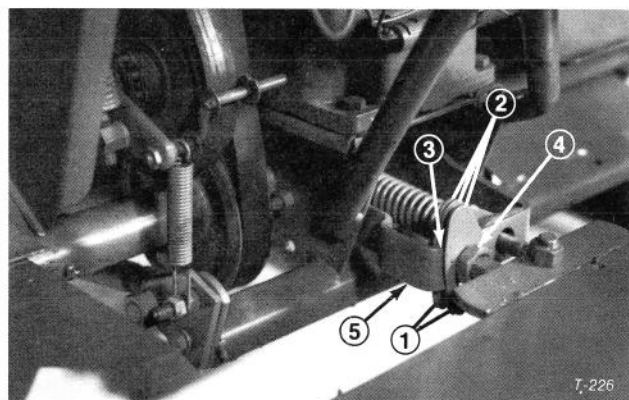

Figure 34
1. Remove screws and locknuts securing rear center and rear side shims (Fig. 34, 35).
2. Move one shim from spring side of yoke to opposite side (Fig. 34).
3. Insert shim between locknut and yoke (Fig. 34). Locknut may be slightly loosened during this
procedure and then tightened. However, be sure jam nut does not rotate or cutting unit attitude will be affected and height-of-cut slightly changed (Fig. 34).
5. Check chain tension. If chain still comes within 1/2 in. (13 mm) of touching, add another shim at each of the three points and recheck tension. Continue until chain is properly tensioned or all shims have been moved. If all shims have been moved, but chain is still too slack, chain must be shortened; refer to Shortening Chain, page 21. If tension is correct, install screws and locknuts and continue operation (Fig. 34, 35).
1. Move shims back to original position at all three points (Fig. 34, 35).
2. Remove chain from mower and remove (1) one chain link.
3. Install (1) one offset link. Offset link may be obtained from your Toro Distributor.
4. Install chain and check tension. If tension is incorrect, move shims to opposite side of center yoke and between hanger and support at each side of cutting unit; refer to Rear Cutting Unit Drive, page 22. If tension is correct, secure shims with screws and locknuts and continue operation (Fig. 34, 35).